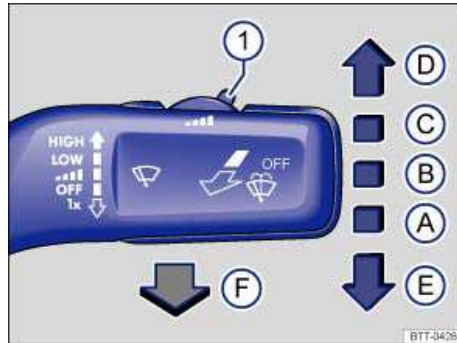

Fig. 75 Operating the front windshield wiper.
- Press the windshield wiper lever down briefly ⇒ fig. 75 (E) when the ignition is off.
Carefully fold the wiper arms back onto the windshield before driving! Switch the ignition on and press the windshield wiper lever down briefly ⇒ fig. 75 (E). The wiper arms move back to their original position.